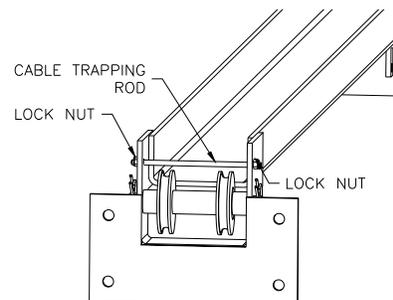

Fig. 5-Cable Trapping
- Attach bolt-on parts to column extensions as shown in **Fig. 5** and assemble to columns using M12 x 30 Hex bolts. Ensure power extension assembly is bolted to power column. NOTE: Install Nut and Washers on exterior of the assembly
- 8) Shim both columns to plumb using the shims provided as shown in Fig. 5. DO NOT shim more than 1/2" at any given point. Use a level no less than 24" in length to plumb columns.
- 17) At the upper beam sheave locations disassemble and reassemble the cable trapping rod to install the cable onto the sheave, See Fig 5. To install the cable bottom sheave will need to be removed then reassembled.